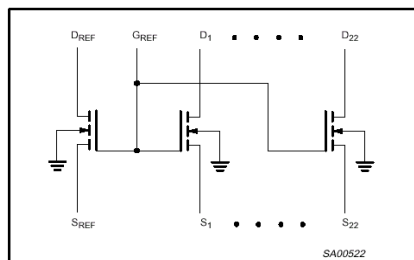

Figure 4. GTL20XX Logic Diagram
**No Active Control Logic** – As shown in Figure 4, the GTL-TVC is a passive device and there is no active control logic. This means there is no supply power ( $V_{DD}$ ) required for device operation.